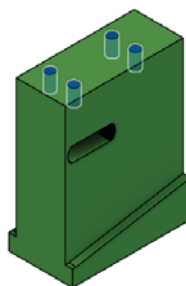

Figure 0-7
- 4 holes at the top of the AR10 vise block. Refer to Figure 0-7